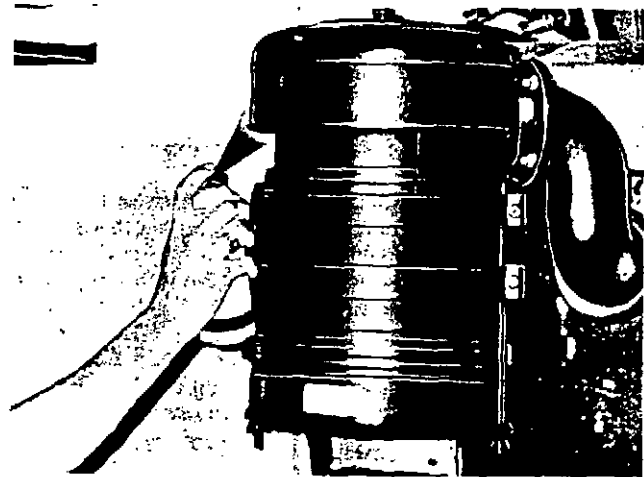

Fig. 2-6, N11807. Ether spray application
1. Spray ether into air cleaner intake while second man cranks the engine, Fig. 2-6.